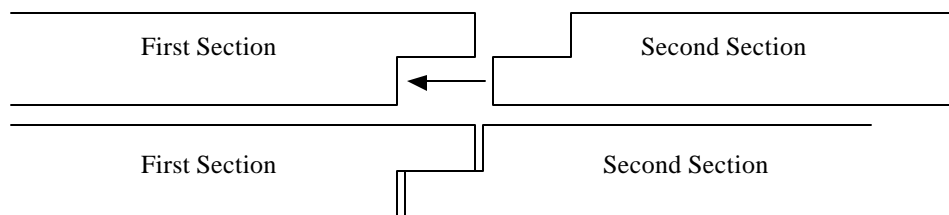

Figure 1. Mounting Order
- 4.4 When installing multiple sections, start at one end of the mounting surface and install the first magnet bar such that the second magnet bar section will insert under the first (**Figure 1**).
- 4.6 Install any remaining bars in the same fashion, working from left to right (**Figure 1**). Place all sections first without tightening screws.